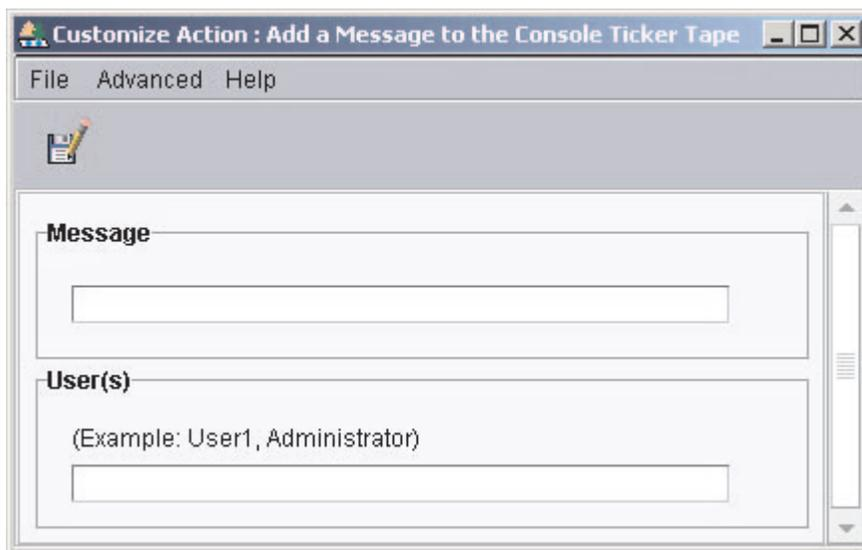

Figure 12. Customize Action window for ticker-tape alert
9. In the Actions pane of the Event Action Plan Builder, double-click an event action type. The Customize Action window opens. The example shown in Figure 12 is for ticker-tape alerts.